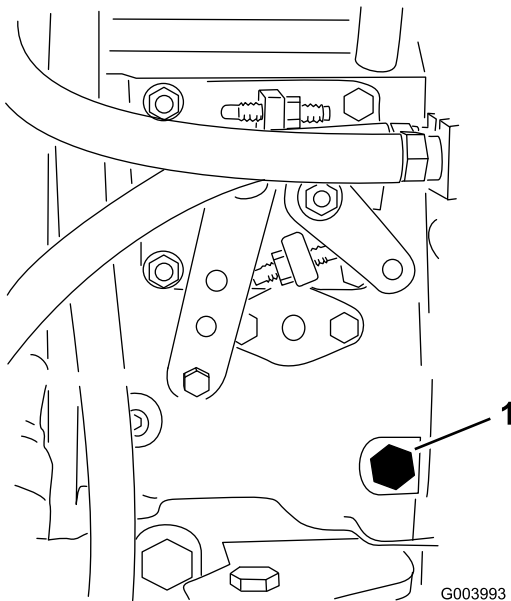

Figure 48
3. Open the air bleed screw on the fuel injection pump (Figure 48) with a 12 mm wrench.